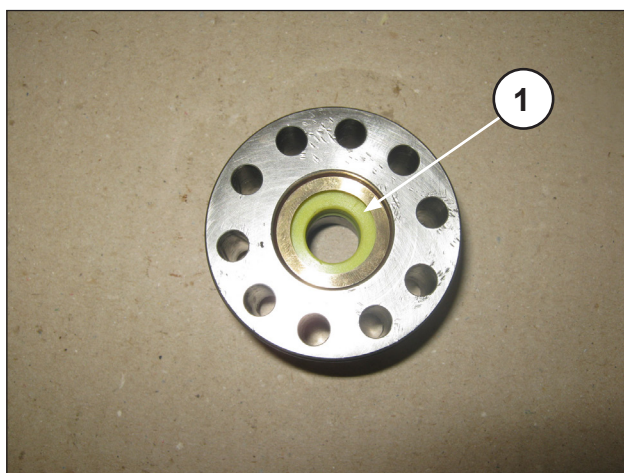
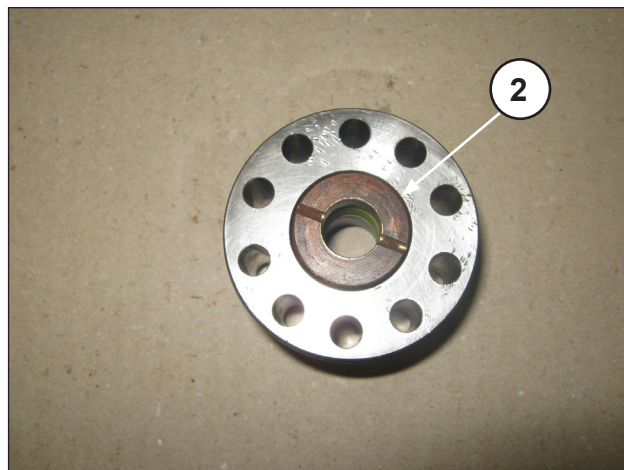
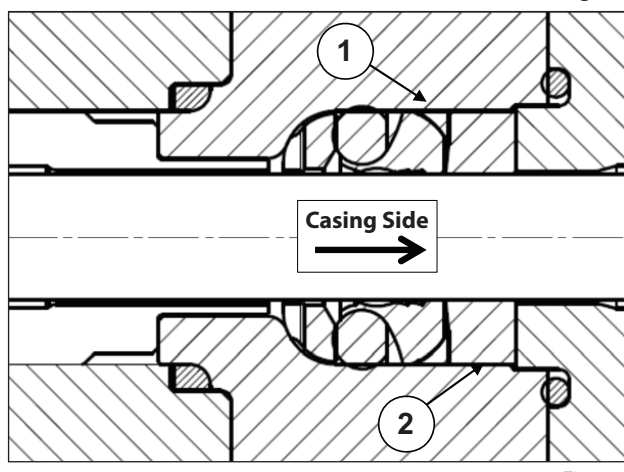

Fig. 45
Fig. 46
Fig. 47
- B) On the internal diameter, grease must be applied paying great attention to filling all the pockets between the sealing lips as shown in Fig. 45.
- Insert the anti-extrusion ring ① and the gasket bush ② arranged as shown in Fig. 45, Fig. 46, Fig. 47.
The gasket bush ③ must be introduced into the support with the outlets facing outwards (casing side) as shown in Fig. 46 and in Fig. 47.